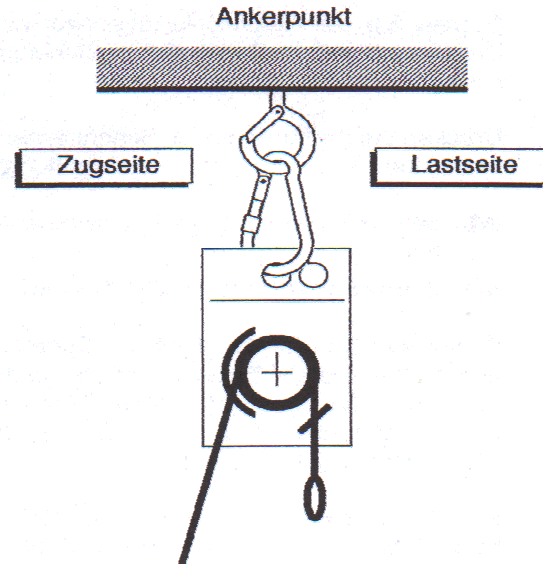

Abbildung 16
1. Direct suspension using carabine at suitable and adequately secure suspension point (Abb. 16).